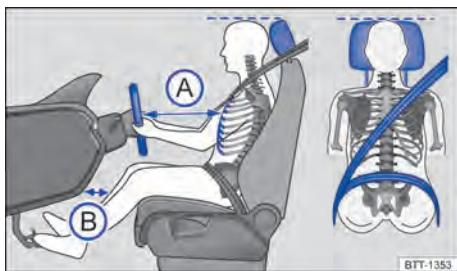

Fig. 20 Correct distance between the driver and the steering wheel, correct seatbelt position and correct headrest adjustment.
- Adjust the seat so that the distance between the steering wheel and the driver's chest is at least of 25 cm → Fig. 20 (A) and so the driver can firmly hold the steering wheel by its outer rim with both hands and with slightly flexed arms.
- Adjust the driver's seat lengthwise so that the pedals may be reached with slightly flexed legs and so that the distance between the knees and the dashboard is at least 10 cm → Fig. 20 (B).
- Adjust the head rest so its top edge is at the same height as the top of the head → Fig. 20 – but not below eye level. Position the back of your head as close to the head restraint as possible.